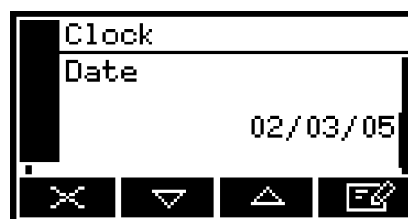

Figure 14 - The Clock (date) screen
4. Press the  soft key to show the Clock (date) screen, as shown in Figure 14.